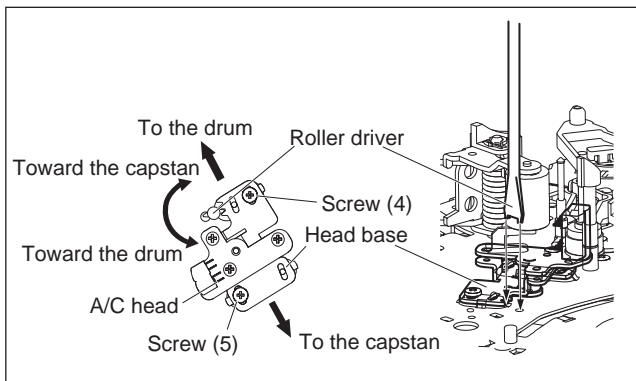

Fig.3-2-4a
- Apply the external trigger signal to D.FF (E), to observe the V.PB FM waveform at the measuring point (D).
- Loosen the screws (4) and (5), then set the Roller driver to the innermost projected part of the A/C head. (See Fig. 3-2-4a.)
- Rotate the roller driver so that the A/C head comes closest to the capstan. From there, move the A/C head back gradually toward the drum until the point where the FM waveform is maximized for the second time, and then tighten the screws (4) and (5) temporarily.
- Fine-adjust A/C head base position to maximize the FM waveform, and then tighten the screws (4) and (5) firmly.